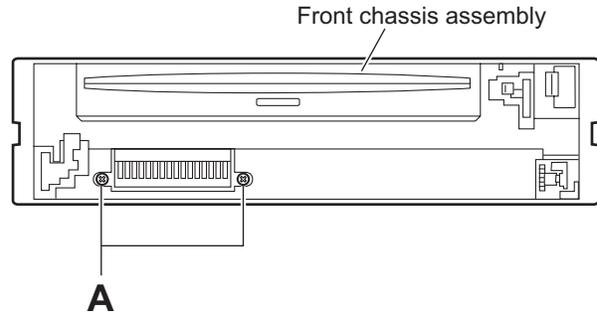

Fig.3
3.1.3 Removing the front chassis assembly (See Figs.3 and 4)
- From the front side of the main body, remove the two screws **A** attaching the front chassis assembly. (See Fig.3.)